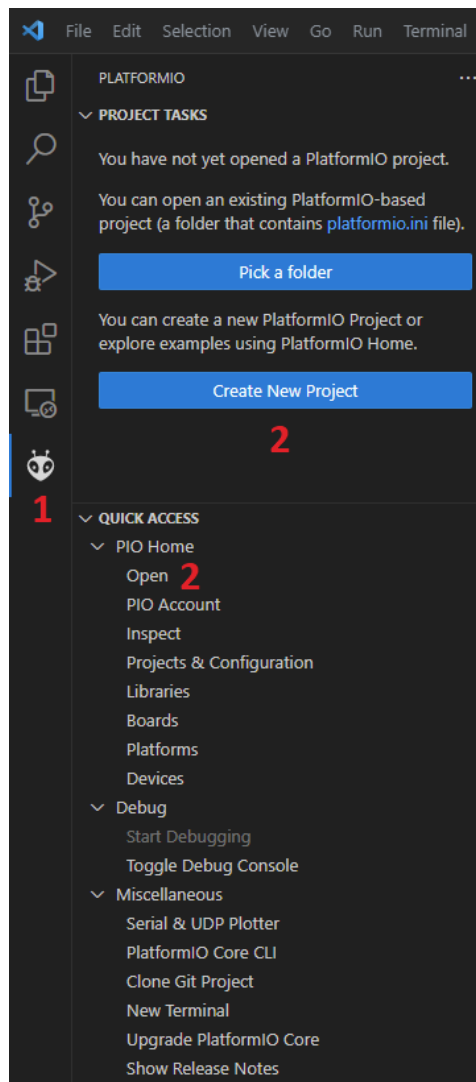

Figure 9. Creating new project
1. Open Visual Studio Code and click the PlatformIO icon on the activity bar (Figure 9).